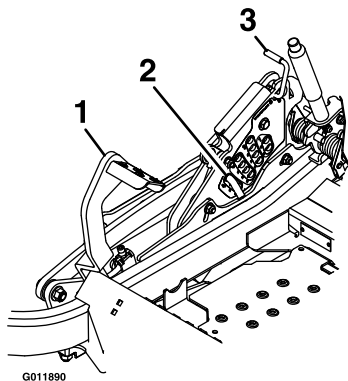

Figure 27
5. Push the foot pedal all the way forward and the deck will latch at the 4 1/2 inch (11.4 cm) transport position (Figure 27).